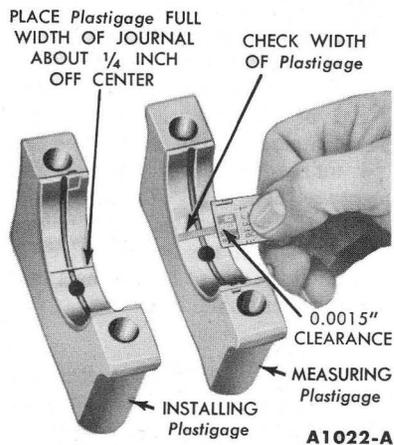

FIG. 59—Installing and Measuring Plastigage—Engine Installed
10. Place a piece of Plastigage on the bearing surface the full width of the bearing cap and about 1/4 inch off center (Fig. 59).